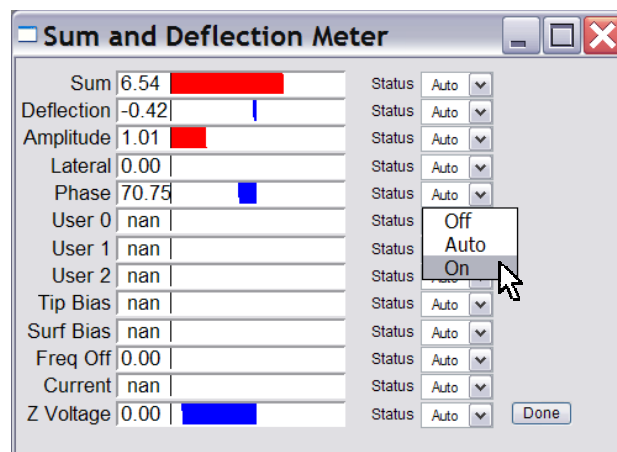

Figure 7.7.2: Turning on additional meters in the S&D meter.
- Figure 7.7.2 shows the phase signal being selected, such that the quantitative value of the Phase signal can be seen during imaging to aid user to whether the tip is experiencing net attractive or repulsive forces as it interacts with the surface (Section 6.1.4).